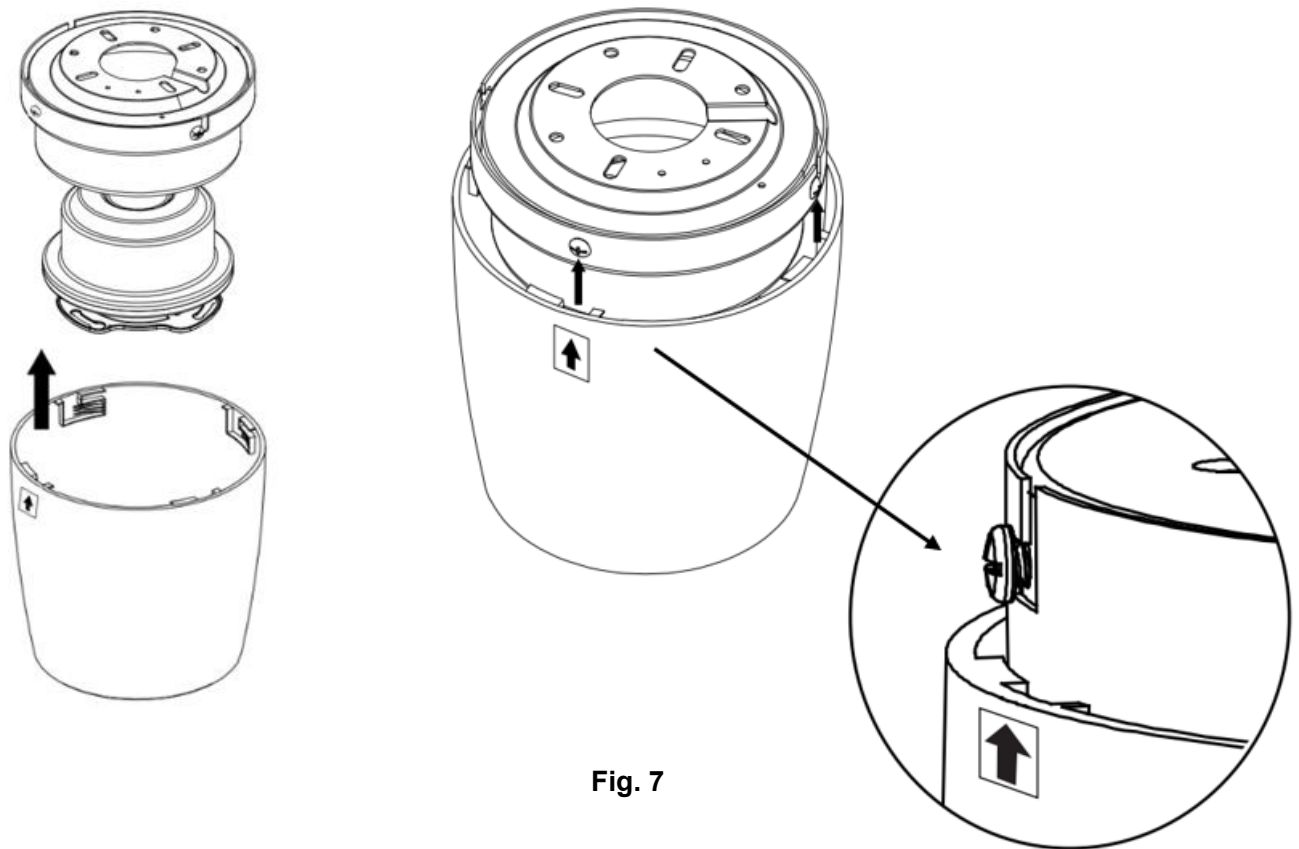

Fig. 7
- Align the arrow mark on the groove surface of the motor housing up to the screw of the mounting bracket. Align the inner grooves of the motor housing up to the screws of the mounting bracket. (Fig.7)